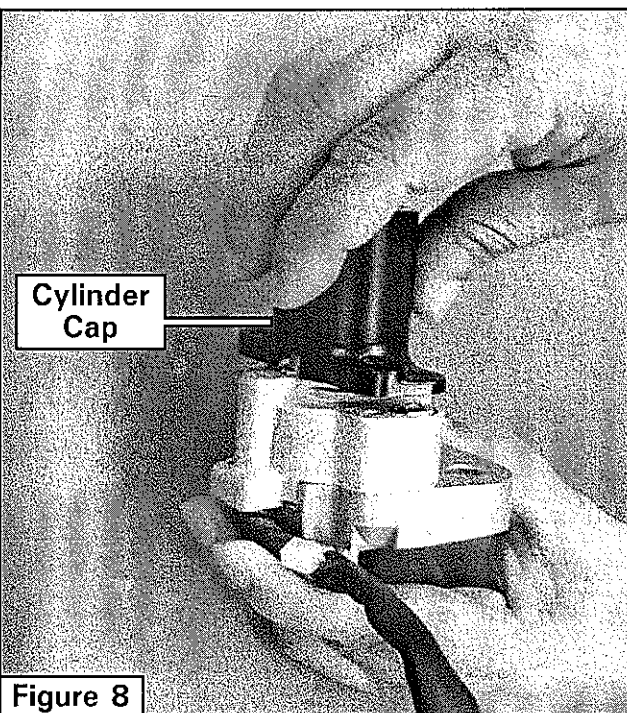

Figure 8
4. Remove the ignition switch from the vise and hold it upright over the workbench and carefully remove the cylinder cap (Figure 8).